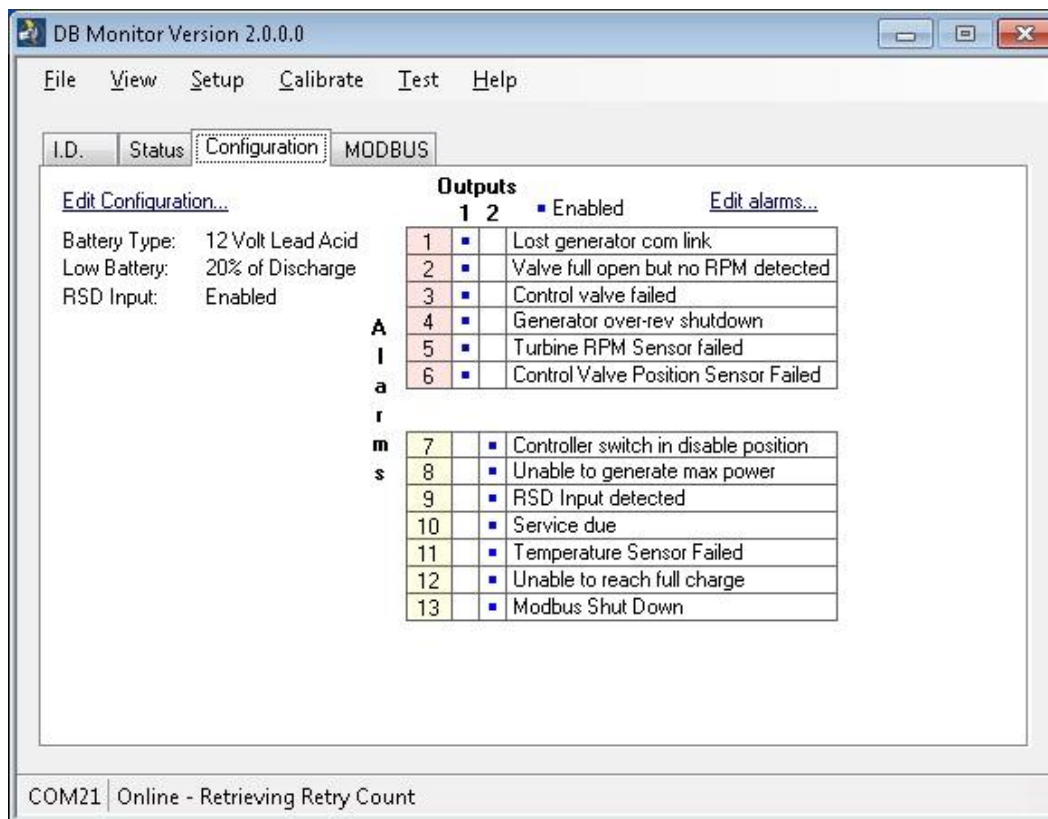

Figure 3-22. Configuration tab
- If an alarm condition exists, it will be indicated in the Alarm 1 or Alarm 2 block. To display the alarm descriptions, click the **Configuration tab** (Figure 3-22, page 33).
- Note:** (1) The amount of charge delivered to the battery is calculated with consideration to the battery temperature. (2) Conditions may exist that can cause inconsequential fluctuations in the current produced.